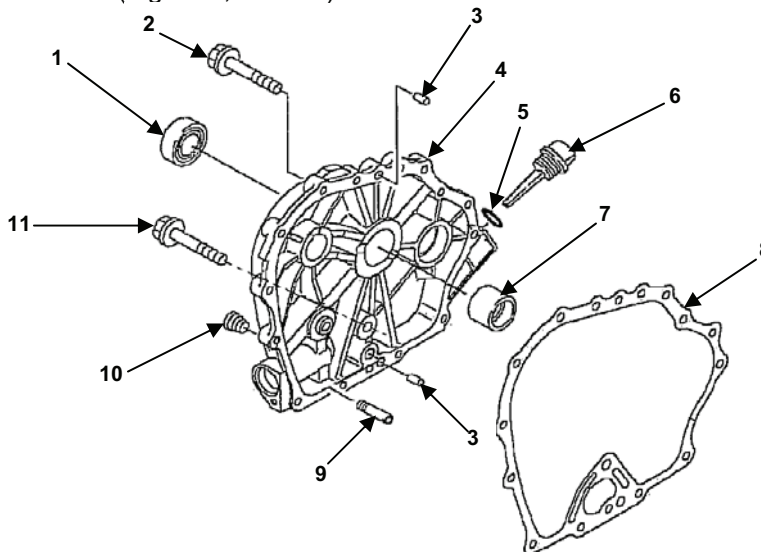

Figure 1. Crankcase Cover.
2. Disassemble crankcase cover (Figure 1, item 4) from the engine by removing fourteen (14) screws (Figure 1, item 2) and stiffener bolt (Figure 1, item 11).
3. Remove cover gasket (Figure 1, item 8). Replace if damaged or deformed.
2. Inspect main oil seal (Figure 1, item 1), parallel pins (Figure 1, item 3), O-ring (Figure 1, item 5), oil dipstick (Figure 1, item 6), main bearing (Figure 1, item 7), oil tube (Figure 1, item 9), and oil plug (Figure 1, item 10) for damage. Replace appropriate items if necessary.